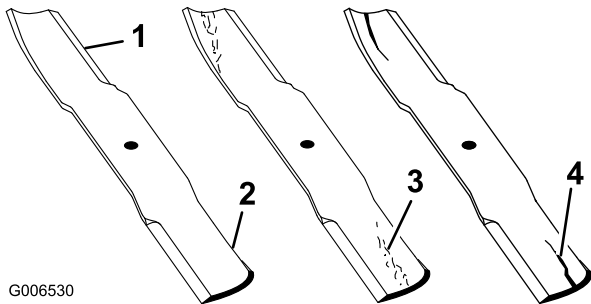

Figure 84
1. Inspect the cutting edges (Figure 84). If the edges are not sharp or have nicks, remove and sharpen the blades. Refer to Sharpening the Blades.
2. Inspect the blades, especially the curved area. If you notice any cracks, wear, or a slot forming in this area immediately install a new blades (Figure 84).